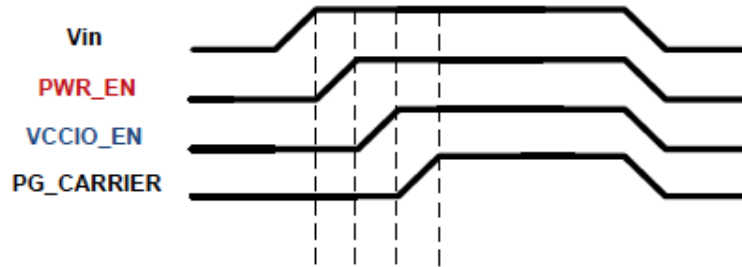

Figure 5 – Power Sequencing
- Figure 5 illustrates the power supply sequencing on power up. Note Vin and PWR_Enable can come up simultaneously, but shown staggered as PWR_Enable can come up later.